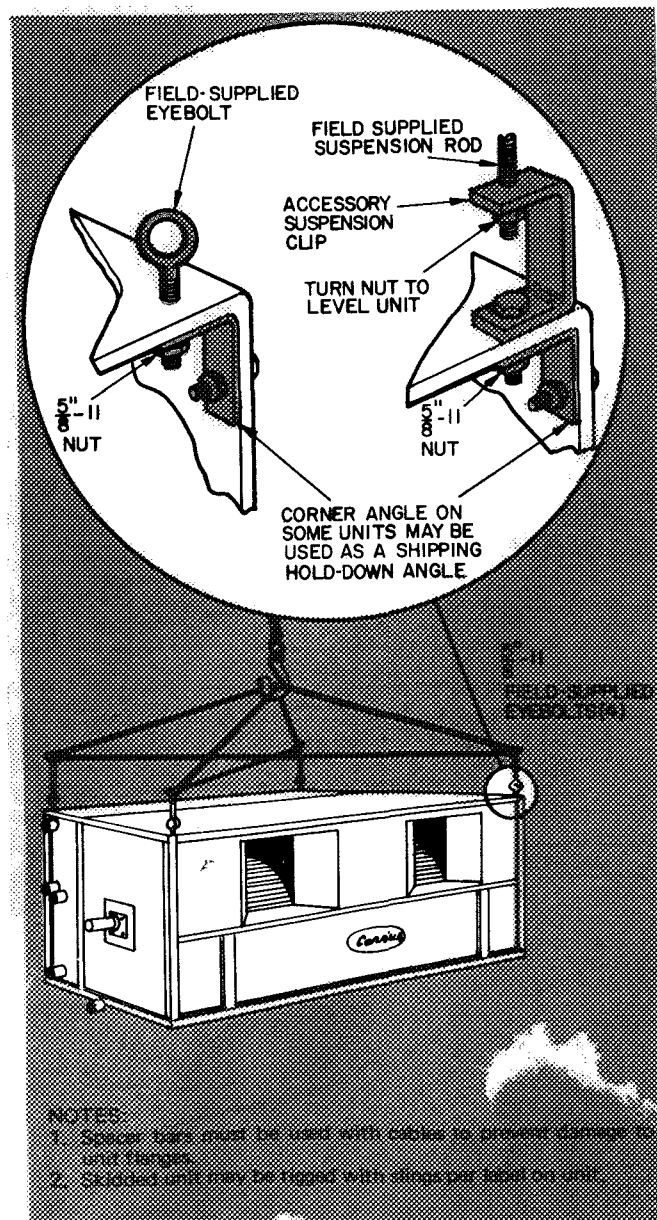

Fig. 1 - Rigging and Suspension Details
1. Use spacer bars when rigging to avoid bending unit flanges per Fig. 1.